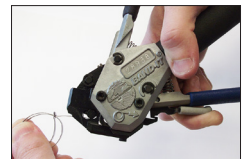

Fig. 4
**Shield Termination Clamping Process (Figures 4 thru 8)**